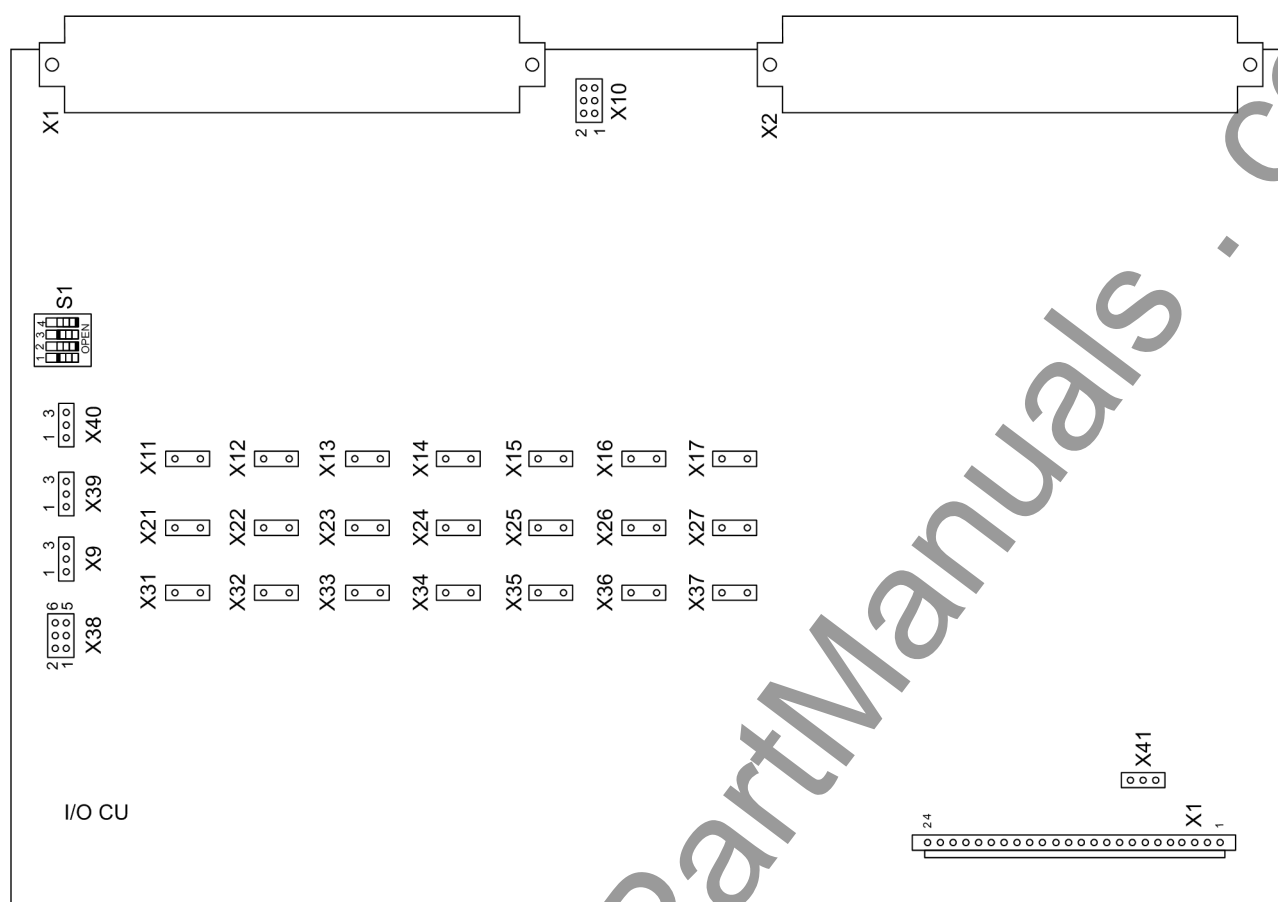

Figure 3-1 Location of the jumpers on the EAZ module (central unit)
- ☐ Change the rated control voltages for the binary inputs of the EAZ module as desired by relocating the jumpers (shown in Figure 3-1, page 32 and Table 3-1, page 32).